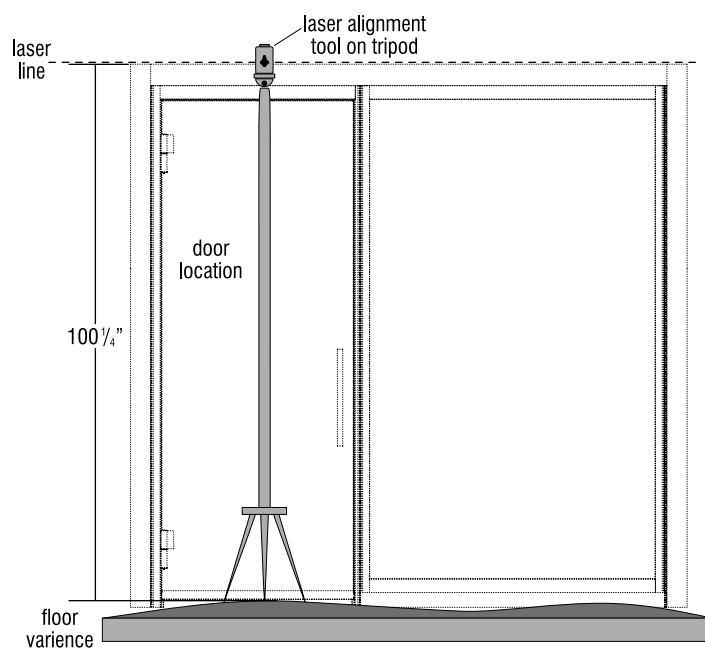

Figure 3
4. To accurately determine and cut the 2-way corner post heights to accommodate for floor height variances, a laser alignment tool must be set up on a tripod. Per KI quote drawing (or shop print if modified product), place the laser alignment tripod into the doorway of the super structure being assembled, then set the laser line at  $100\frac{1}{4}"$  from the floor. (Figure 3).